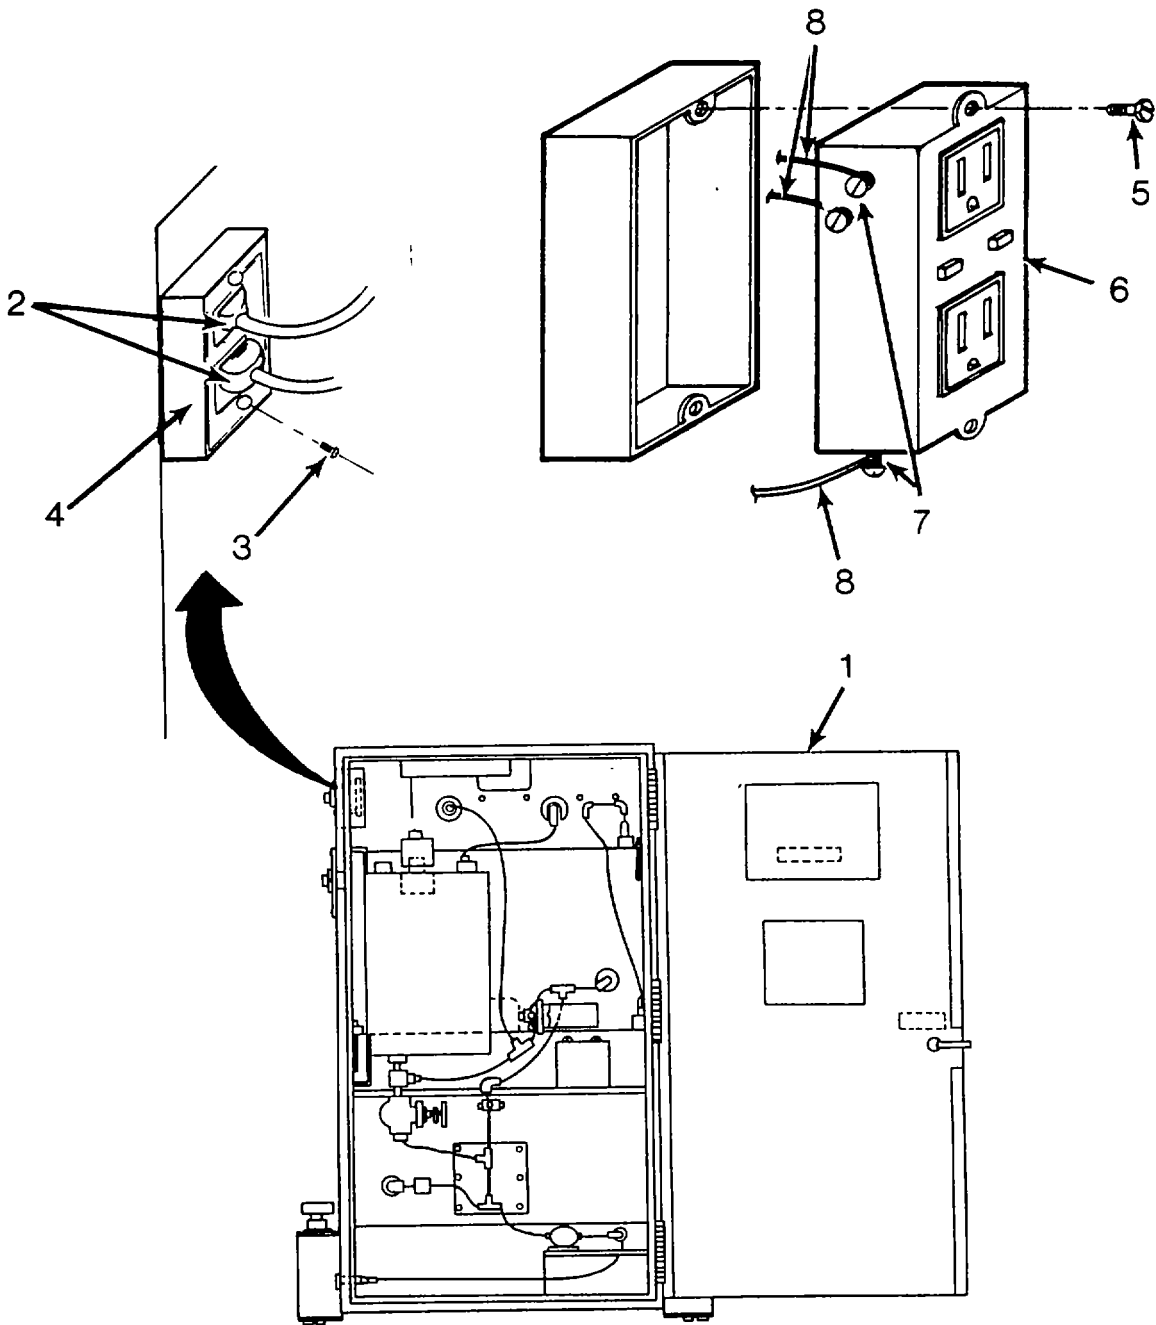

Figure 4-30. Replace GFI Receptacle
n. Repair by replacing Ground Fault Interrupter (GFI) Receptacle. (See Figure 4-30.)
(1) Open rear door (1).